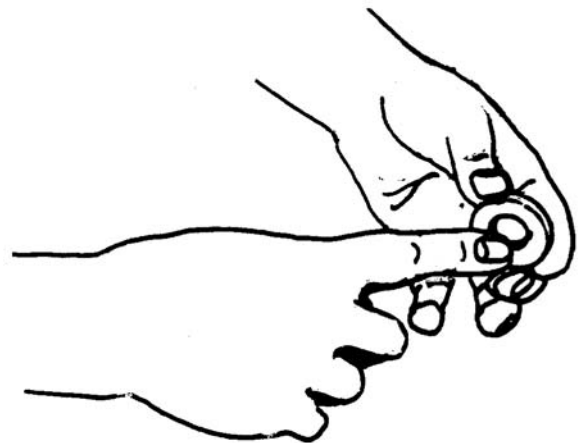

Figure 6-64. Greasing Oil Seal Lip
- h. Coat new oil seal lip with grease. See Figure 6-64.